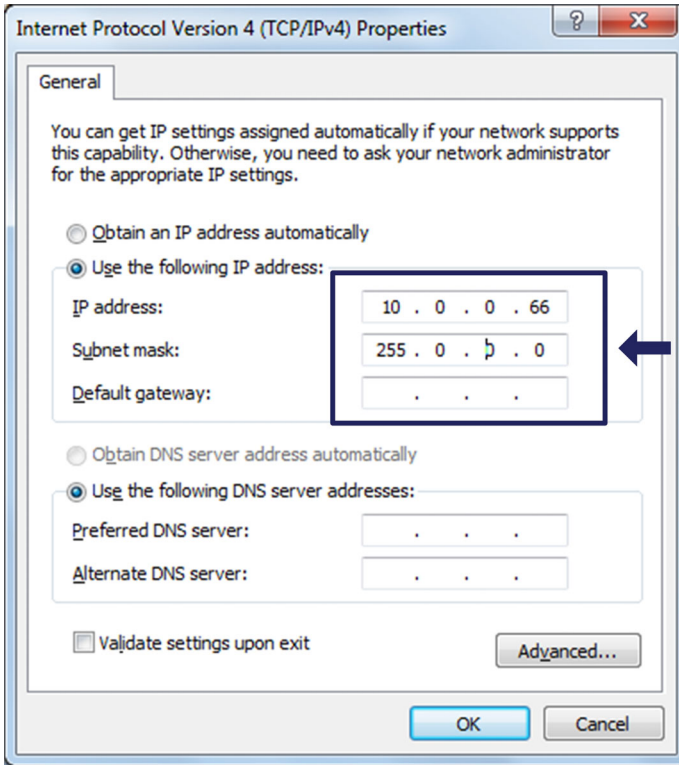

Fig. 3.9 Internet Protocol Version 4 Properties
- ▶ Set the **IP address** and the **Subnet mask** (Fig. 3.9).